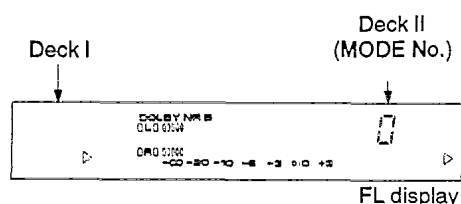

Fig. 1 FL display example 1
- To enter the test mode, set both DECK I and DECK II into the STOP mode and press the TIME/COUNT key of DECK I, RESET key of DECK I and PAUSE key of DECK II all together. (Refer to Fig.1)